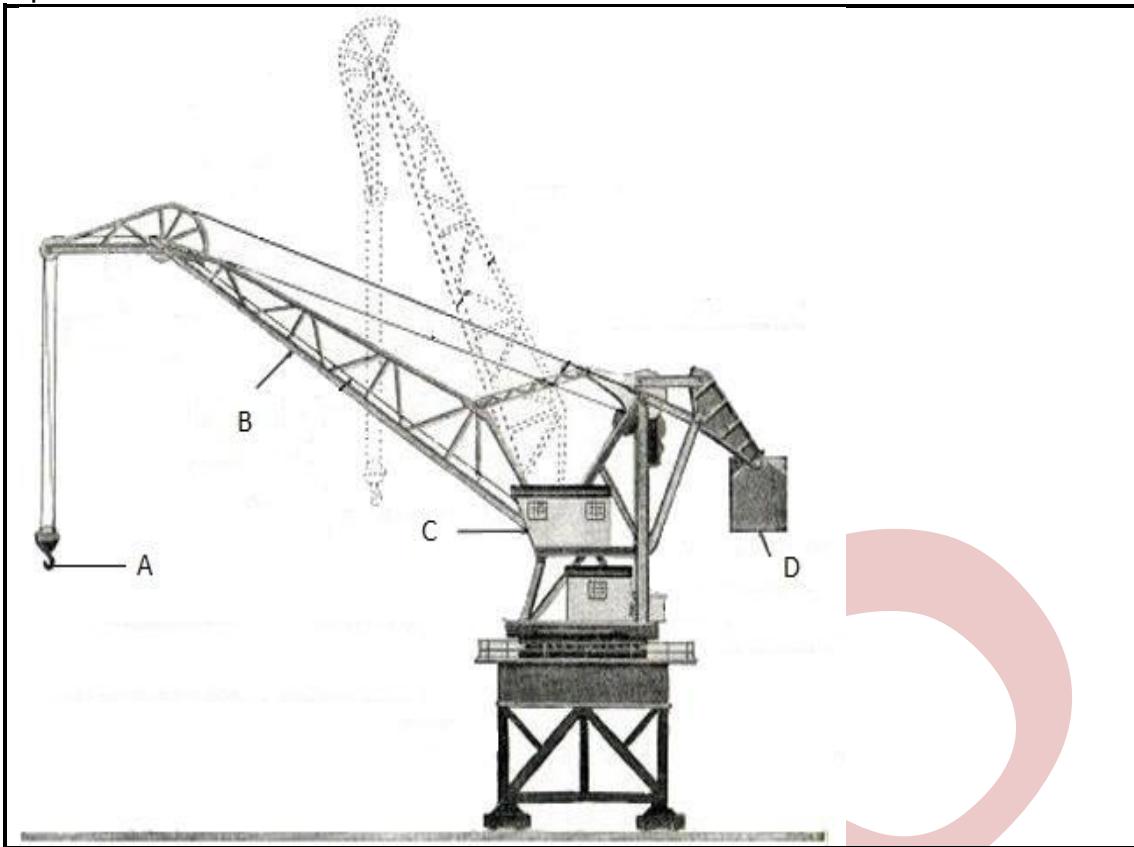

FIGURE 3
7.1 Refer to FIGURE 3 below, showing a sketch of a wharf crane, and answer the question.
Label the different parts A–D in FIGURE 3. Write the answer next to the letter (A–D) in the ANSWER BOOK.